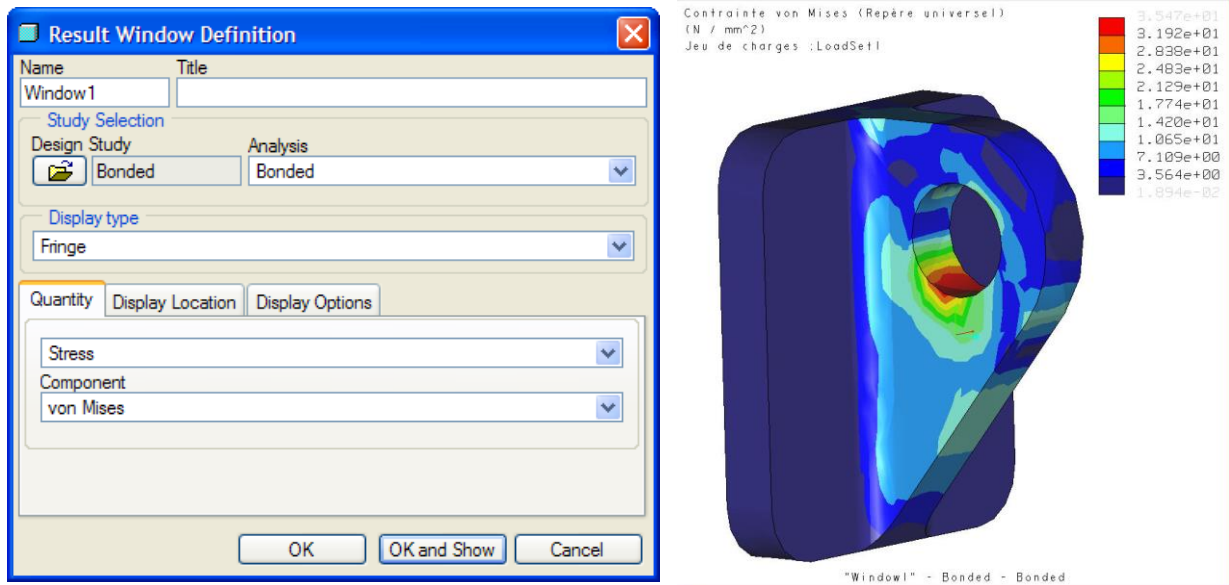

Figure 2 – Results Definition
- Re run the analysis if necessary and view the results. After the analysis completes choose **Results > Define Result Window...**  menu. Make sure all the options are the same as in Figure 2 then click **OK And Show**.